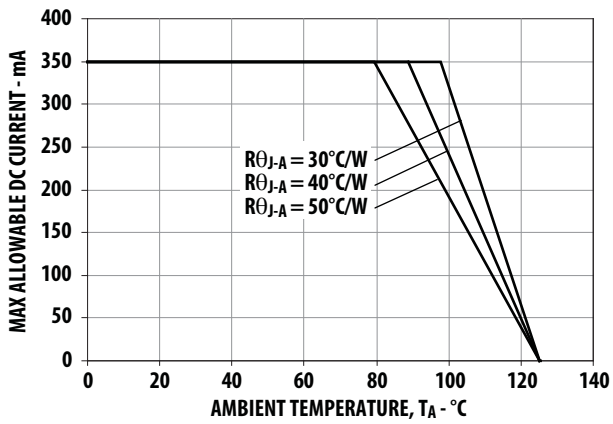

Figure 10. Maximum Forward Current vs. Ambient Temperature. Derated based on T_{JMAX} = 125°C, R_{θJA} = 30°C/W, 40°C/W and 50°C/W
1. Derate linearly based on Figure 10 for AllnGaP and Figure 22 for InGaN.